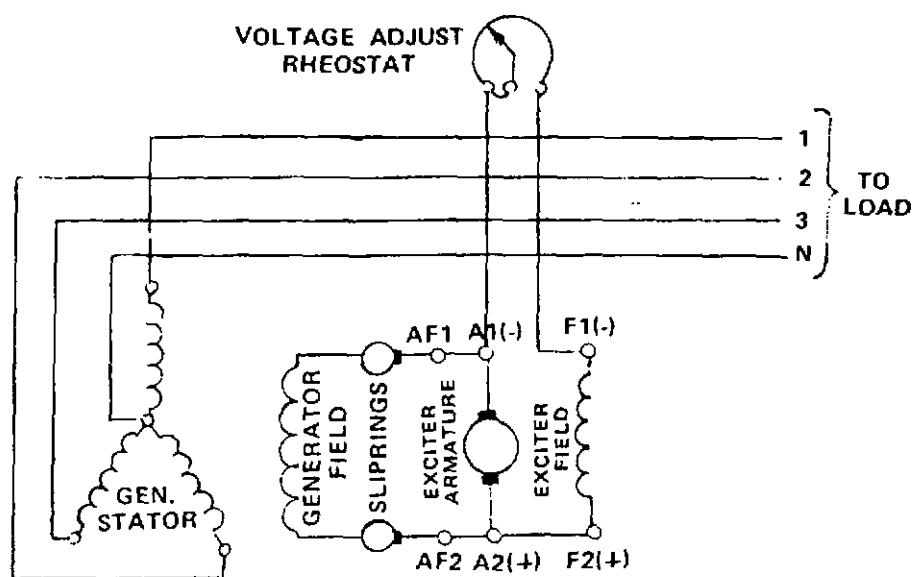

FIGURE 1-4 REVOLVING FIELD GENERATOR WITH DIRECT CONNECTED BRUSH TYPE DC EXCITER - VOLTAGE INHERENTLY REGULATED.
1.2.3 Control of the generator output is normally accomplished by using a variable resistor or rheostat in the DC exciter shunt field. The voltage adjust rheostat normally allows adjustment of generator output voltage from approximately 90 percent to 110 percent of the nominal output voltage rating. See figure 1-4, page 3.